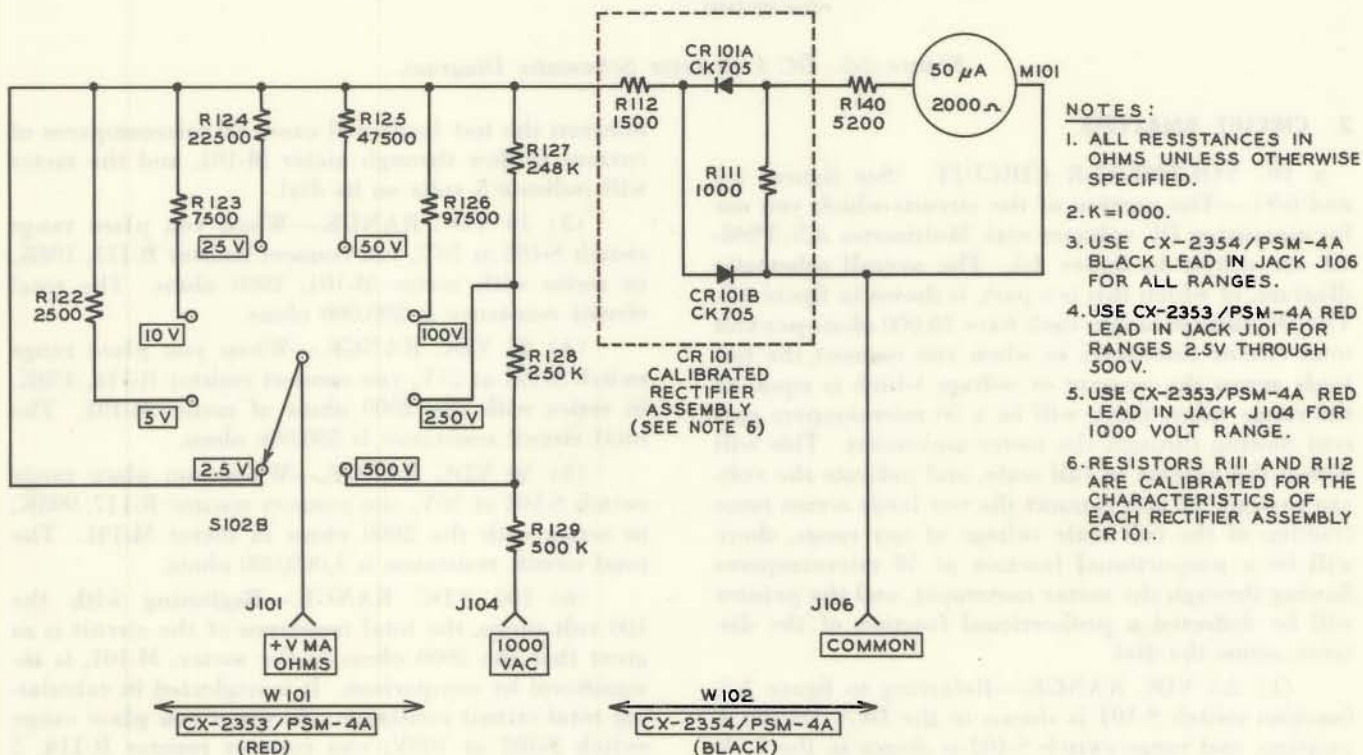

Figure 2-6. AC Voltmeter Schematic Diagram.
b. AC VOLTMETER CIRCUIT. (See figures 2-6 and 6-9).—The portion of the circuits in Multimeter ME-48A/U which you will use for measuring AC voltage is shown in figure 2-6. This is a portion of the entire circuit which is shown in figure 6-9. The total circuit resistance of the voltmeter circuit for measuring AC voltage is 1000 ohms per volt. All readings are RMS values of sine wave AC voltages, and are based on peak values. For all ranges through 500 volts, the Red Test Lead, W-101, connects the +V
(1) 2.5 VAC RANGE.—Figure 2-6 shows the circuit in use when range switch S-102 is set at 2.5V. The total circuit resistance on the conducting half cycle is the 2500 ohm circuit described in paragraph *b* above.
(2) 5 VAC RANGE.—When you set range switch S-102 at 5V, you connect resistor R-122, 2500 ohms, in series with the 2500 ohm meter circuit. The total instrument resistance is 5000 ohms for this range.
(3) 10 VAC RANGE.—When you set the range switch, S-102, at 10V, you connect resistor R-123, 7500 ohms, in series with the 2500 ohm meter circuit. The total circuit resistance is 10,000 ohms.
(4) 25 VAC RANGE.—When you set range switch S-102 at 25V, you connect resistor R-124, 22,500 ohms, in series with the 2500 ohm meter circuit. The total circuit resistance is 25,000 ohms.
(5) 50 VAC RANGE.—When you set range switch S-102 at 50V, you connect resistor R-125, 47,500